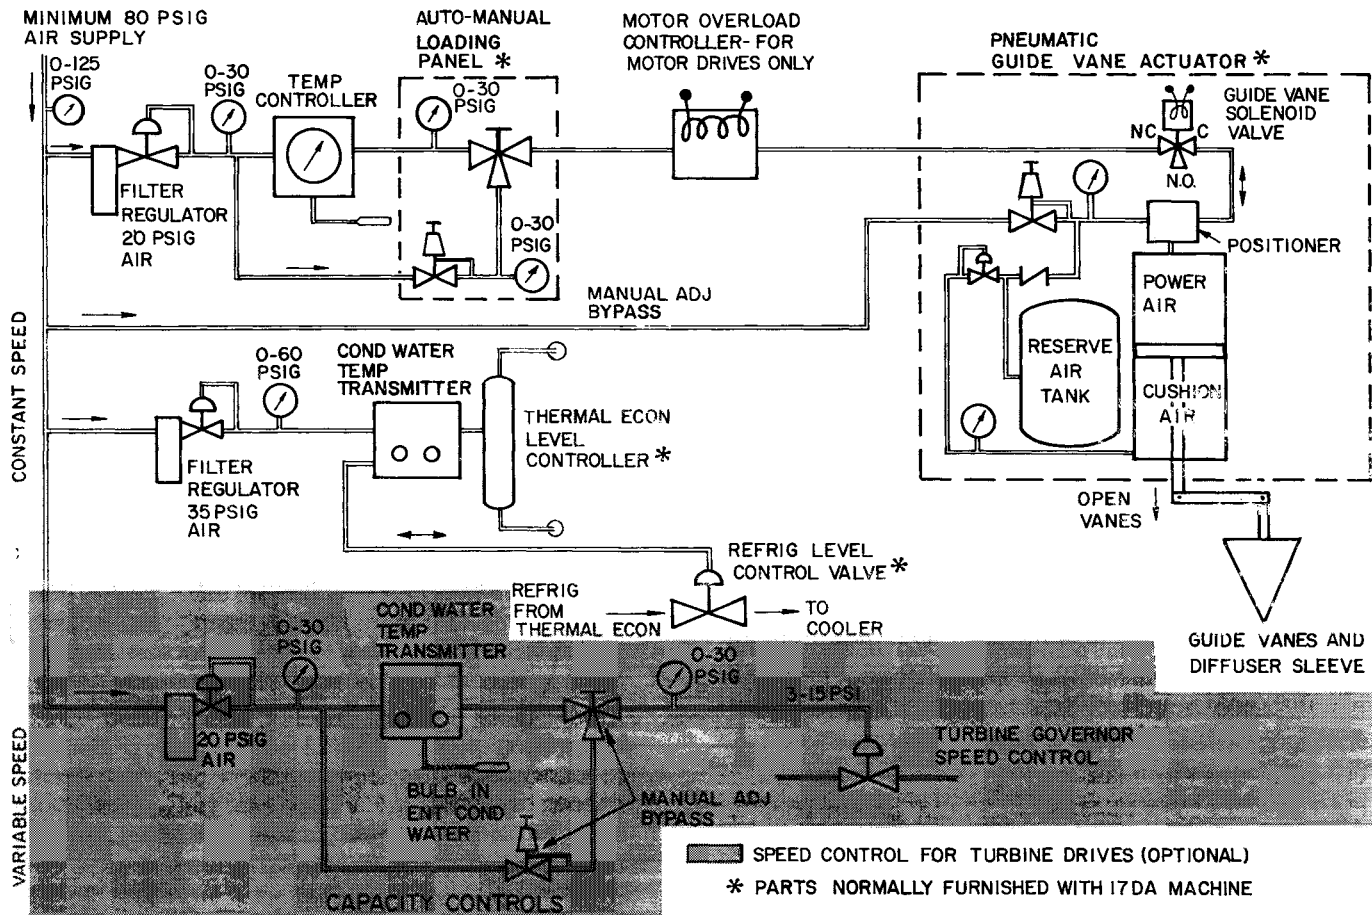

Fig. 2 – Capacity Control Diagram
The capacity control system (Fig. 2) includes the pneumatic controls which move the guide vanes and the diffuser sleeve, and the turbine speed control system for partial load operation.
Guide Vane and Diffuser Sleeve Operation — As shown in Fig. 2, the temperature controller transmits a 3 to 15 psi air signal thru the auto.-manual loading panel to the positioner on the pneumatic actuator. The guide vanes and the diffuser sleeve are reset simultaneously to maintain the desired leaving chilled water temperature and to ensure optimum machine performance.
→ **Auto-Manual Loading Panel** (Fig. 2 and 3) – The panel allows either automatic or manual control of the leaving chilled water temperature. Manual control is useful for adjusting the guide vane actuator if any maintenance is required. On turbine driven machines, manual control is useful in limiting the initial horsepower requirements, and on motor driven machines without a load limit relay, it prevents motor overload during start-up and pull-down. Manual control is accomplished by adjusting the air pressure to the pneumatic guide vane actuator thru the manual pressure regulating valve knob (item 13, Fig. 3). Air pressure to the actuator is indicated on the manual loading pressure gage (item 12).
→ **Pneumatic Guide Vane Actuator** – A piston type pneumatic vane actuator (Fig. 2), requiring 80 – 100 psi air, is used to power the guide vane and diffuser sleeve mechanism. A constant pressure “cushion air” is maintained on the guide vane side of the piston. The positioner, in response to control air pressure, varies the air pressure above the piston, thus controlling the guide vane position. The reserve air tank on the pneumatic actuator has sufficient air reserve to close the guide vanes if air pressure fails. A 3-way solenoid in the signal air line actuates on shutdown, bleeding air from the positioner and allowing the guide vanes to close. This action prevents reverse compressor rotation.
→ **Thermal Economizer Liquid Level Controller** – A refrigerant level controller and control valve (Fig. 2) are used to maintain a liquid seal between the high and the low side of the machine.
The pneumatic controls for automatic speed reset, based as recommended, on entering condenser water temperatures, are shown in Fig. 2. A signal which is proportional to entering condenser water temperature is sent by a temperature transmitter to the air head of a turbine speed governor. The turbine speed varies as the water temperature changes.